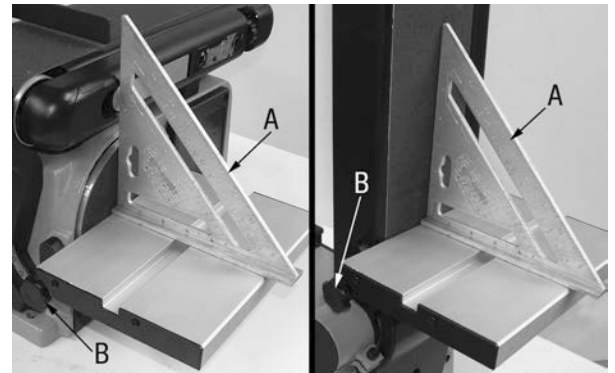

Figure 8
1. Using a combination square (A) Fig.8, check the angle of the worktable with the disc/belt.
2. If the table is not 90° with the disc, loosen table lock knob (B) and tilt table.